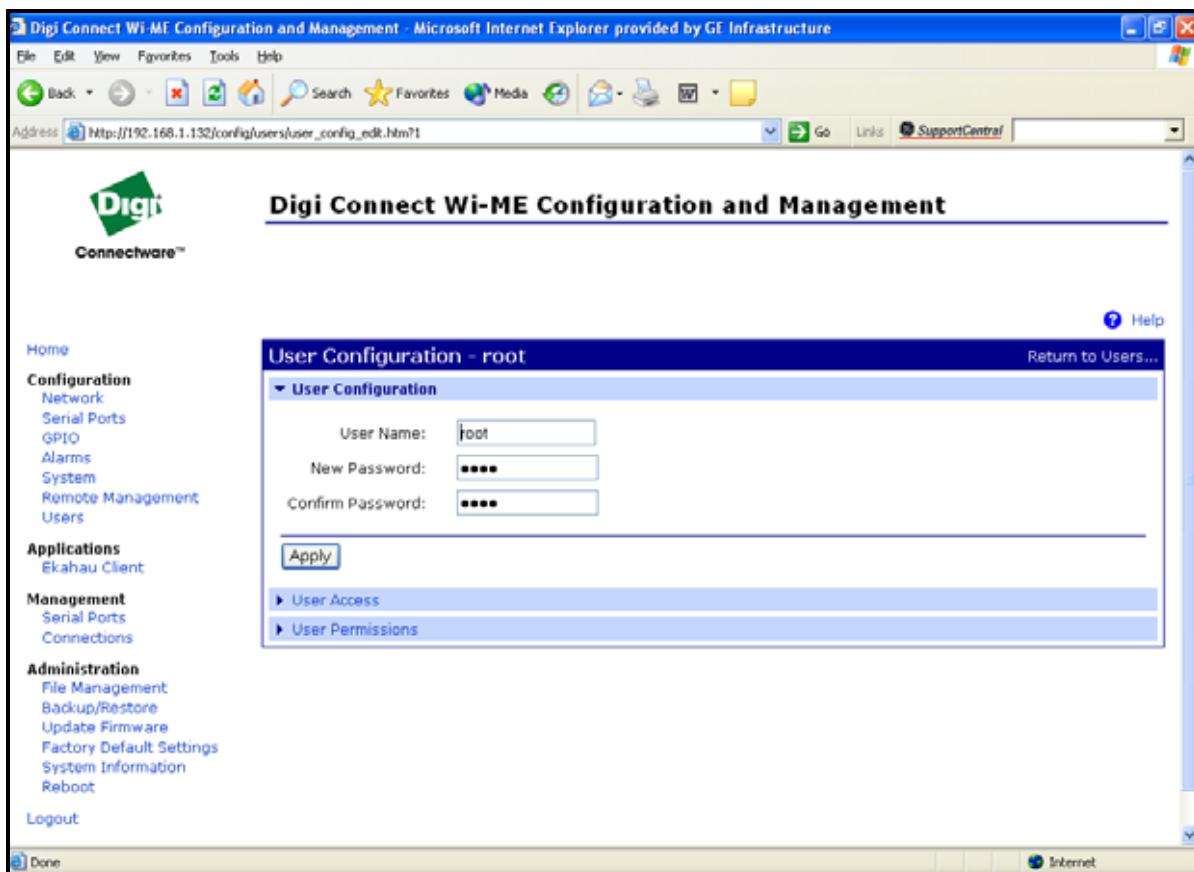

Figure 34: Changing the User Name and/or Password
5. Click on **New...**. Figure 34 on page 50 appears.